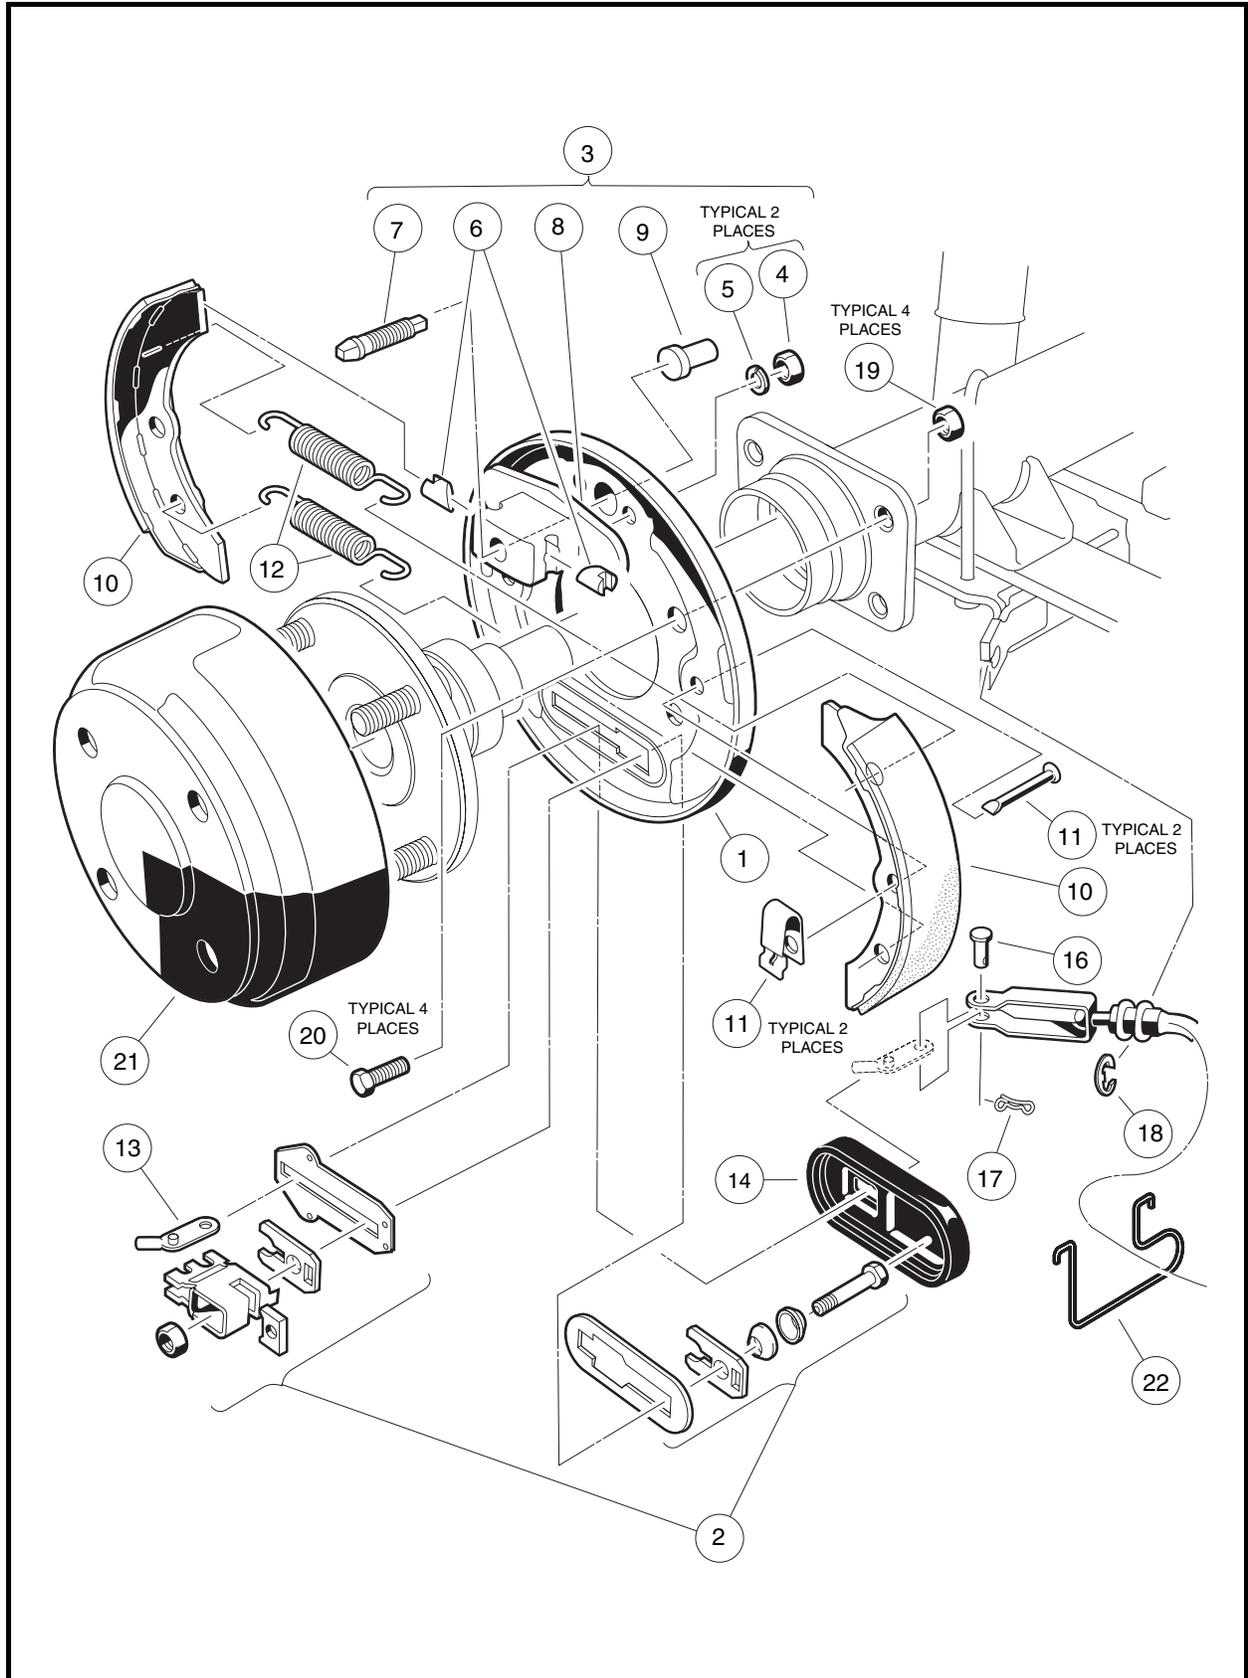

Figure 6-31 Rear Manually-Adjusted Brake Assembly
5. Remove cotter pin (17) and clevis pin (16) from brake cable (**Figure 6-31, Page 6-14** or **Figure 6-11, Page 6-5**).
6. Remove 4 bolts (20) and cone lock nuts (19) that mount the brake assembly to the transaxle (**Figure 6-31, Page 6-14** or **Figure 6-11, Page 6-5**).
2. Be sure bolts (20) and new cone lock nuts (19) are used to mount the brake assembly (**Figure 6-31, Page 6-14** or **Figure 6-11, Page 6-5**).